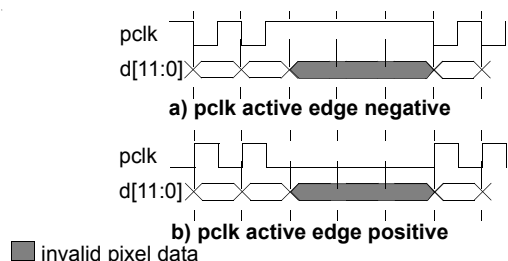

Figure 38. *pclk* in Data Ready Mode
- In data ready mode, the pixel clock output pin (*pclk*) will produce a pulse with a specified level every time valid pixel data appears on the digital video bus $d[11:0]$ as shown in Figure 38.